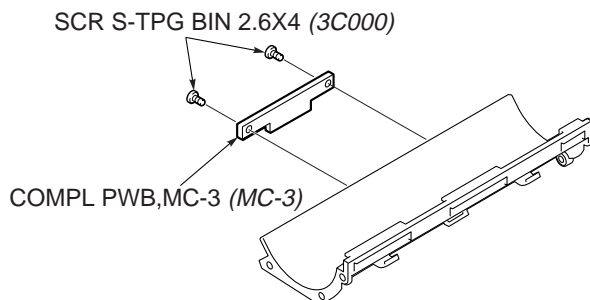

Fig. 3-15-2
- 3) Remove the two “SCR S-TPG BIN 2.6X4 (3C000)” and remove the “COMPL PWB,MC-3 (MC-3)”. (Refer to Fig. 3-15-2.)